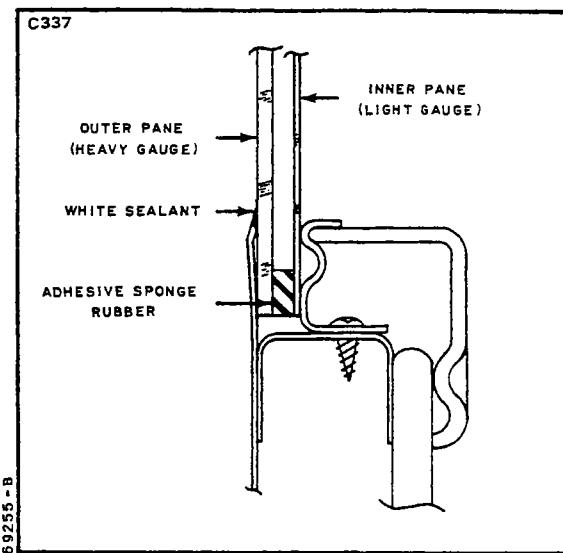

Figure 4-7. Side Window Installation,
- b. Double Pane. (Refer to Figure 4-7.)